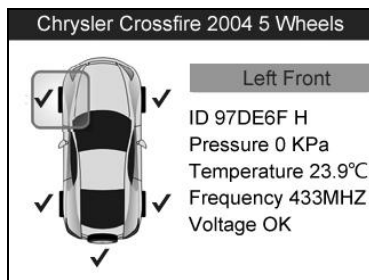

Figure 3.30
- 4) Press the **N** button and use the UP/DOWN or LEFT/RIGHT scroll button to select a scanned wheel to playback the historical records (Figure 3.30). Or press the **Y** button to view all detailed sensor information (Figure 3.31), press **LEFT/RIGHT** scroll button to turn over data screens, and the **N** button to exit.